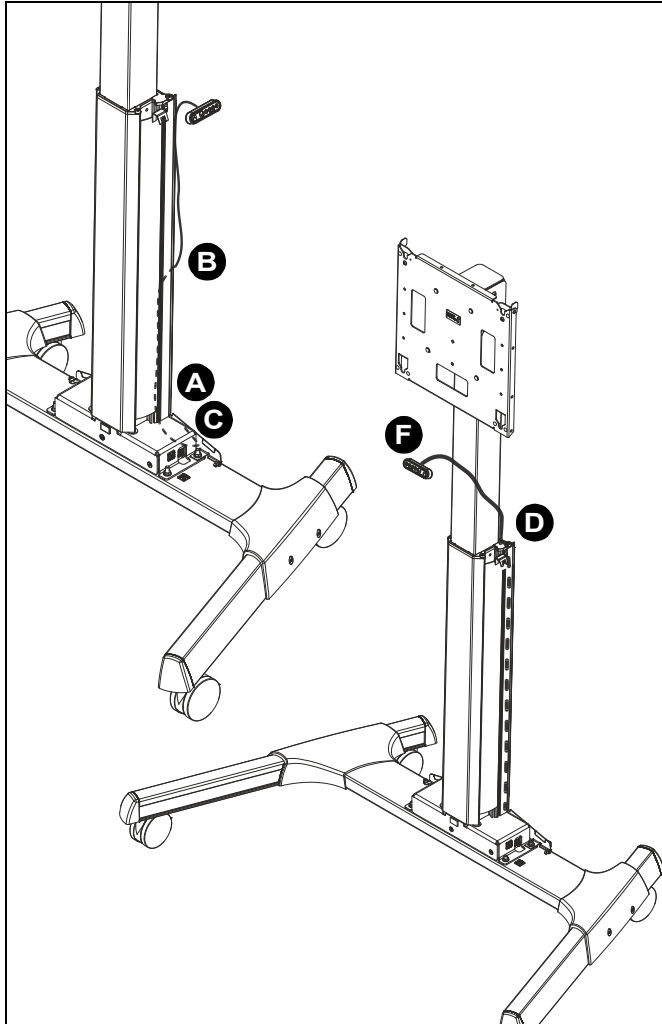
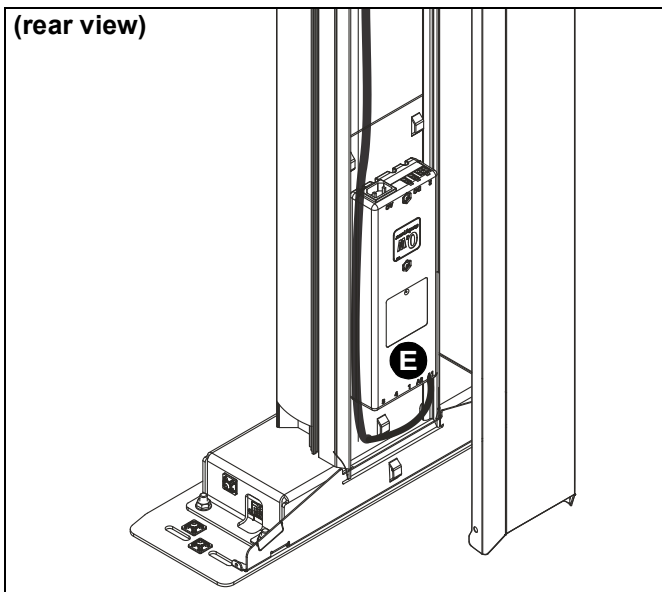

Figure 12
Figure 13
22. (Optional) Relocate control pad to the front center of display if desired following these steps. (See Figure 12) and (See Figure 13)
- F. Use double-sided foam tape (U) to attach control pad to bottom of display in the center.